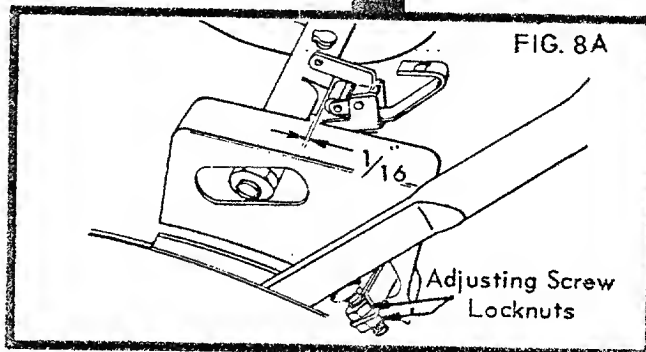

FIG. 8A
3. Loosen adjusting screw locknuts (Fig. 8A).